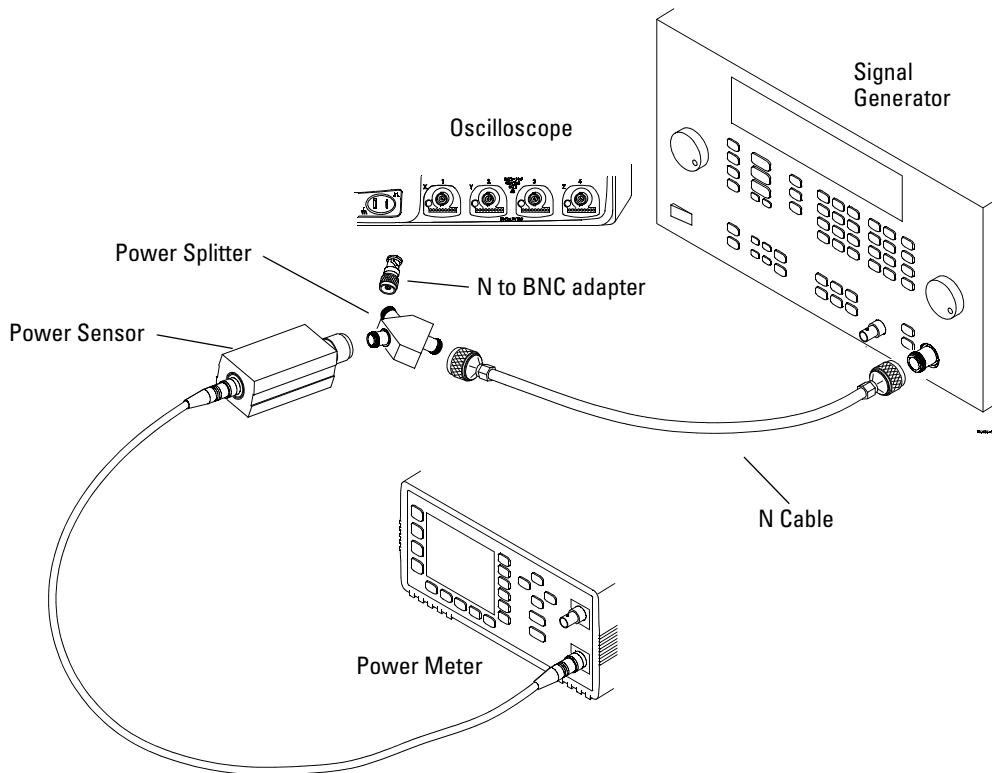

Figure 3 Connect equipment for bandwidth test
- 1 Connect the equipment (see Figure 3).